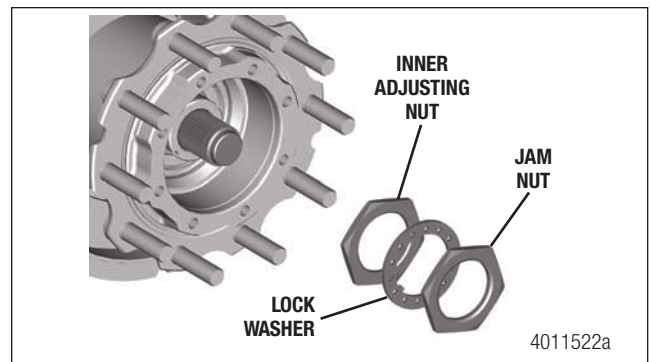
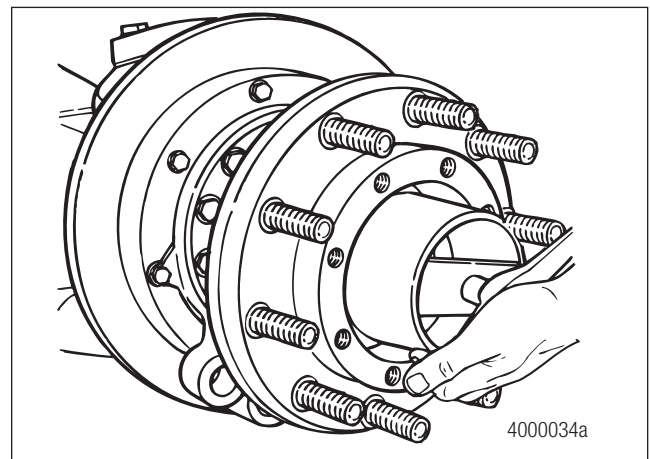

Figure 5.10
Figure 5.11
8. Remove the jam nut, lock washer and the inner adjusting nut from the spindle. Figure 5.10. Use a 4-inch socket wrench to remove the adjusting nut. Figure 5.11.